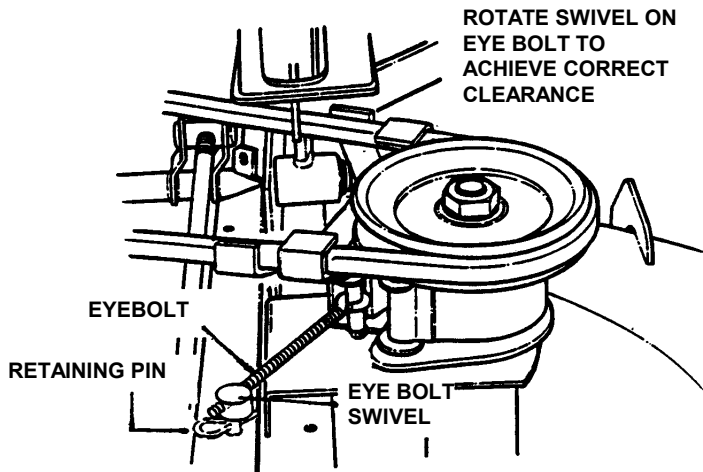

FIGURE 4.3
2. Remove retaining pin from eye bolt swivel. Lift swivel out of deck rail. See Figure 4.3.